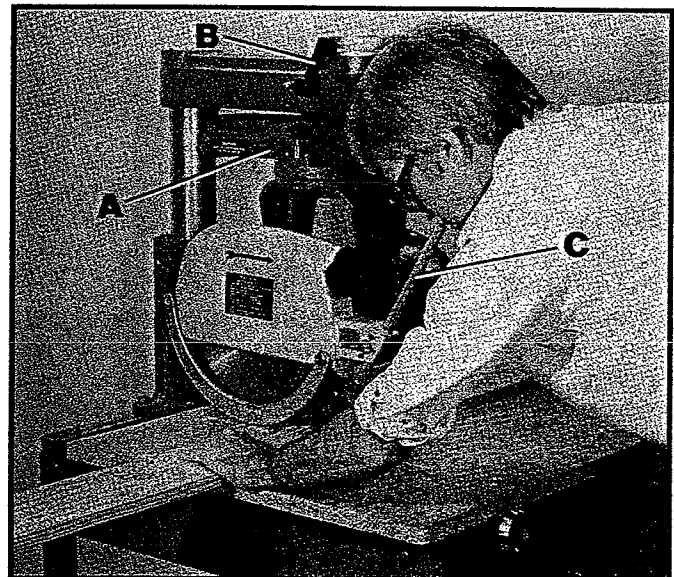

Fig. 62
When cross-cutting, the track arm (A) should be indexed at "0" and the track arm clamp handle (B) Fig. 62, tightened. The fence should be clamped between the table boards. The saw blade is to be to the left and behind the fence. The workpiece is placed on the table and butted against the fence. The saw blade should be clear of the fence and table when the machine is turned on. Then the saw blade is lowered until it lightly cuts into the table surface. The operator should position himself a little to the left of the machine for better visibility while cutting. Pull the saw blade across the work, just far enough to cut it off, and return the saw blade to its starting position. Wait for the blade to stop before touching the cut off piece. **CAUTION:** The operator must always be conscious of where his hands are; that they are clear of the blade and holding the workpiece firmly. As an added measure of operator safety, since the splitter and anti-kickback fingers are (not) used in the cross-cutting operation, the anti-kickback rod (C) can be turned upside down and locked in place so the rod just clears the workpiece. In this position the rod can act as a guard from the exposed teeth of the blade. Fig. 62 shows a cross-cutting operation